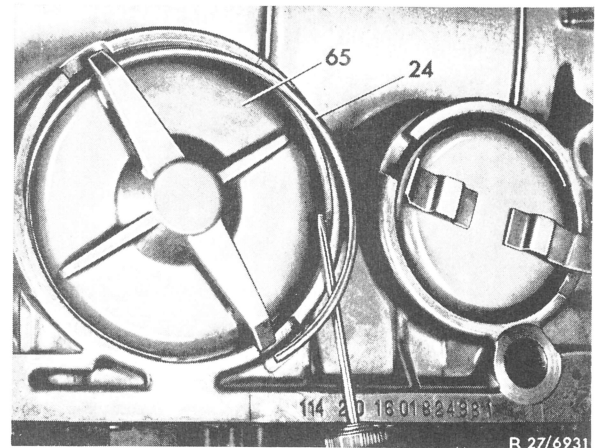

Fig. 5
4 Remove plug pipes (8), then pull sealing caps (9) from plug pipes (Fig. 5).
6 Remove circlip (24) from brake band piston cover B 2 (65) and pull out brake band piston cover (Fig. 5).